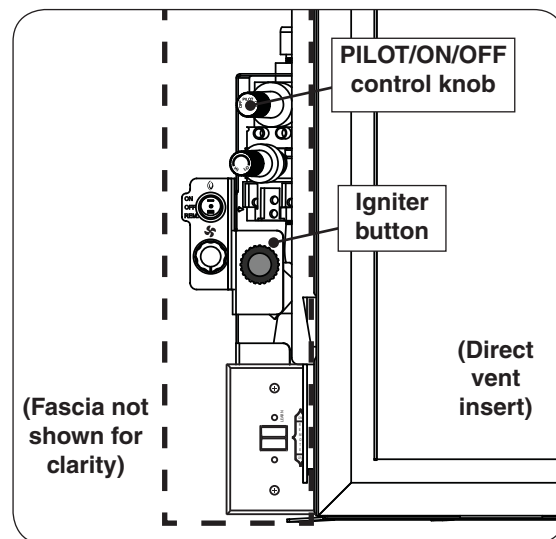
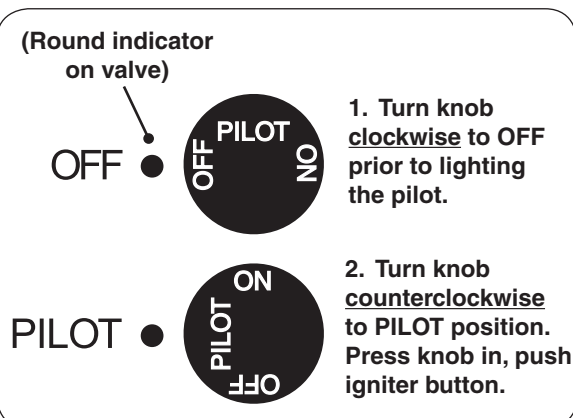

Fig. 37-1 Control box (left side of unit)
Fig. 37-2 Control knob detail (OFF, PILOT)
1. Open the surround door. Locate the PILOT/ON/OFF control knob on the control box (see Fig. 37-1). Push in the control knob slightly and turn clockwise to **OFF** (see Fig. 37-2).
**Allow five (5) minutes for any gas in the unit to dissipate. IF YOU SMELL GAS, SEE STEP (B) ABOVE.** If you don't smell gas, go on to step 2.
2. Turn the PILOT/ON/OFF control knob counterclockwise to **PILOT**. Push the control knob **firmly and fully** in and hold. Push the igniter button (located below knobs) until the pilot lights. While pressing, allow the pilot to stay lit for at least 15 seconds, then release the knob. See Fig. 37-1 and Fig. 37-2. The pilot will remain lit.